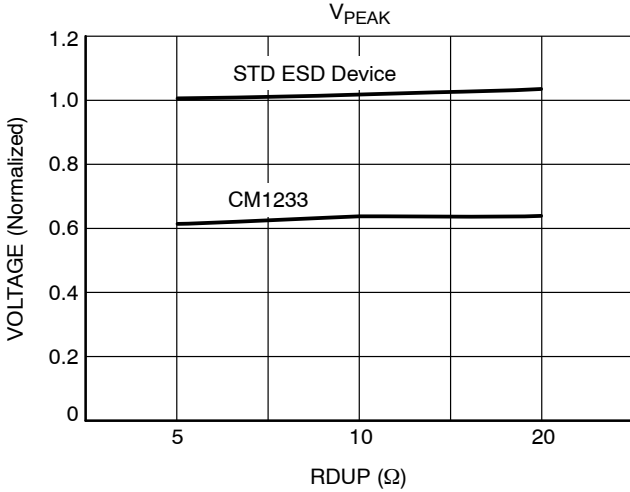
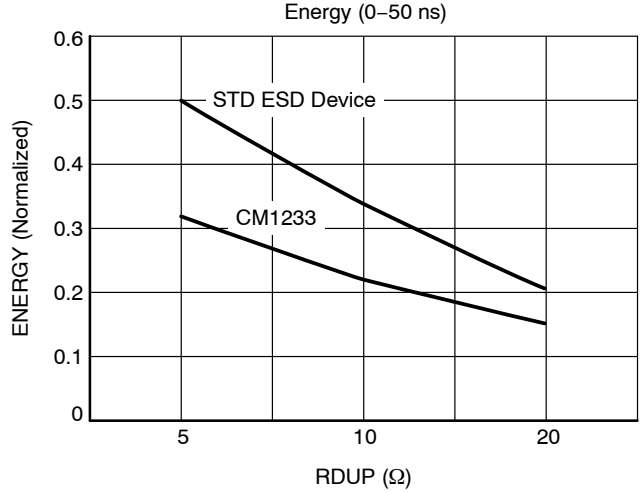
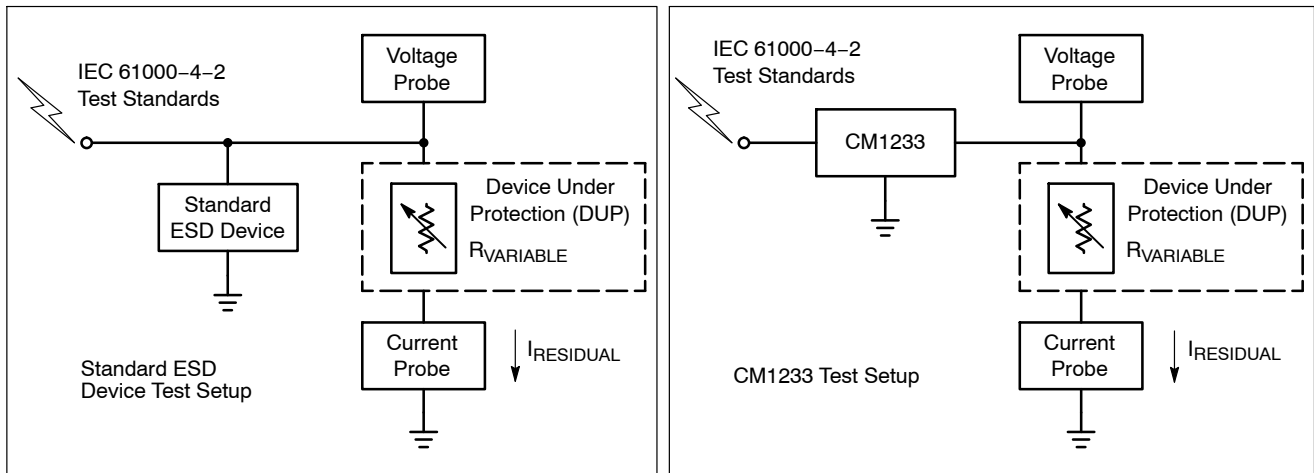

Figure 5. V_{Peak} (8 KV IEC-61000 4-2 ESD Contact Strike) and V_{Clamp} vs. Loading (RDUP)*
Figure 6. Energy Dissipated in DUP vs. RDUP*
Figure 7. Test Setups: Standard Device (Left) and CM1233 (Right)
Figure 5 shows that the CM1233 (*PicoGuardXS* ESD protector) lowers the peak voltage and clamping voltage by 45% across a wide range of loading conditions in comparison to a standard ESD protection device. Figure 6 also indicates that the DUP/ASIC protected by the CM1233 dissipates less energy than a standard ESD protection device. This data was derived using the test setups shown in Figure 7.
*RDUP is the emulated Dynamic Resistance (load) of the Device Under Protection (DUP). See Figure 7.